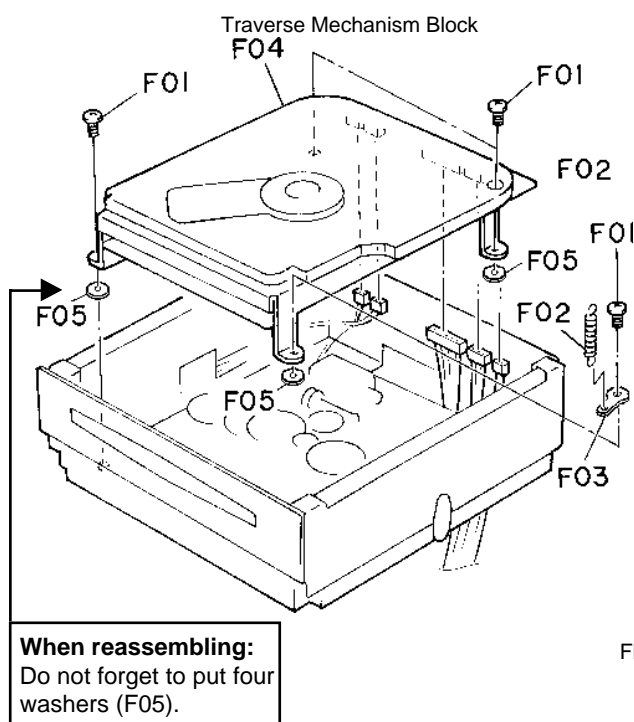

Fig. 1.8.1
Refer to Figs. 1.8.1 and 1.8.2.
- (1) Remove the Mechanism Chassis Block. Refer to item 1.6.1.
- (2) Remove screws F01 (M3x5 + Binding (Black), 4 pcs.), F02 (Stabi SP) and F03.
- (3) Remove F04 (Traverse Mechanism Block) and detach washers F05 (4 pcs.). Refer to Fig. 1.8.1.